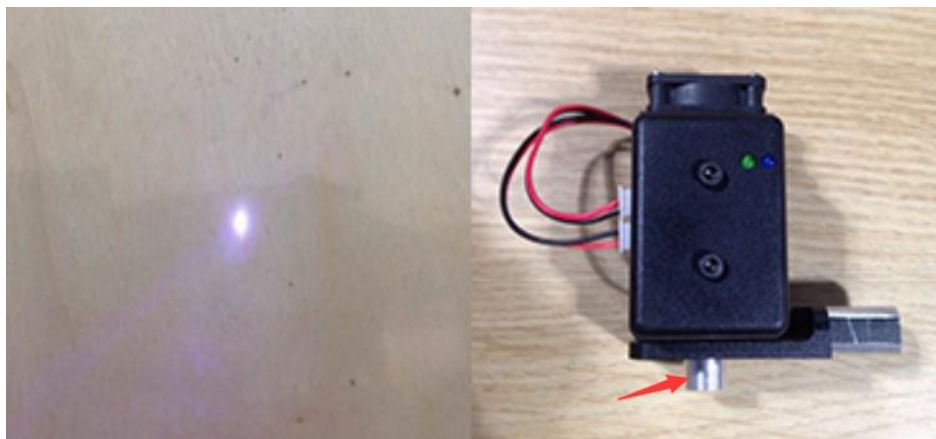

Figure 5.101 Adjust the focus
- If you cannot set the laser to be at its minimum focus, it's probably because the focal length is long. To shorten the focal length, slightly turn the silver lens screw (as shown in Figure 5.101) on the bottom of the laser kit.